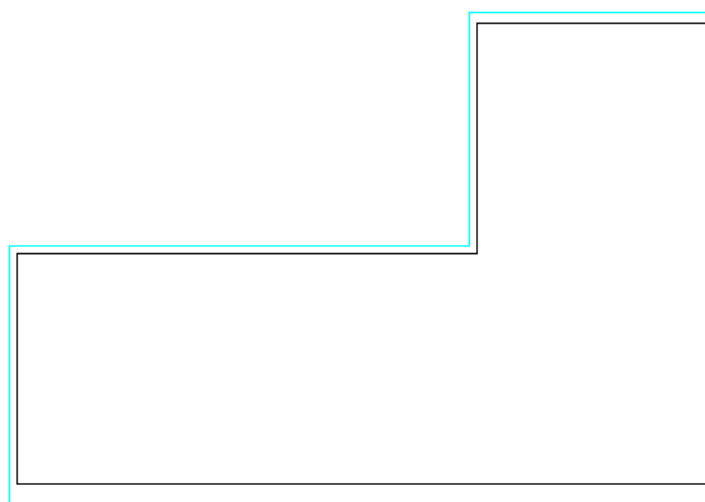

Figure 4-19
1. To keep straight horizontal and vertical lines turn on ortho mode by going to *Settings/Drawing* and enabling the “*Otho Mode*” option at 0° degree. Select *Draw/Polygon/Irregular*. Place the first point in the lower left of the screen, move the cursor to right to achieve a straight horizontal line, and type **48 (15)** on the keyboard and press <Enter>. Move the cursor upwards to achieve a straight horizontal line and type **32 (10)** and press <Enter> on the keyboard. Using this method continue to draw another line to the left for **16ft (5m)**, downwards for **16ft (5m)**, and to the left for **32ft (10m)**. Now select *Right-click/Done* to finish the polygon. Select *View/Zoom All*.
2. Highlight the shape from step 1 and action *Zone/Area*. Click [OK] on the message “Create irrigated area from select items?”. In the dialog ensure that “*Set Arc Orientation Using Area*” is enabled. It should look something like Figure 4-19. Select *View/Zoom Out*.